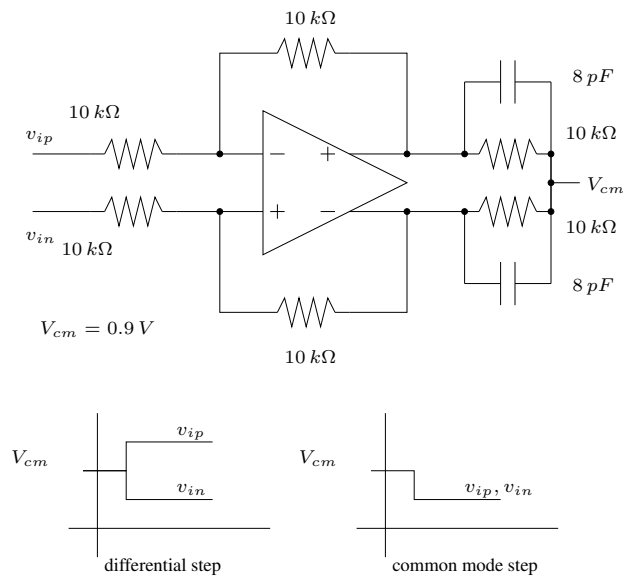

Figure 6: Inverting amplifier
- Simulate the response of the circuit in Fig. 6 to a differential step of 1 V and plot the output. Also plot the output for a 0.5 V common mode step. Use the two stage fully differential opamp designed above.